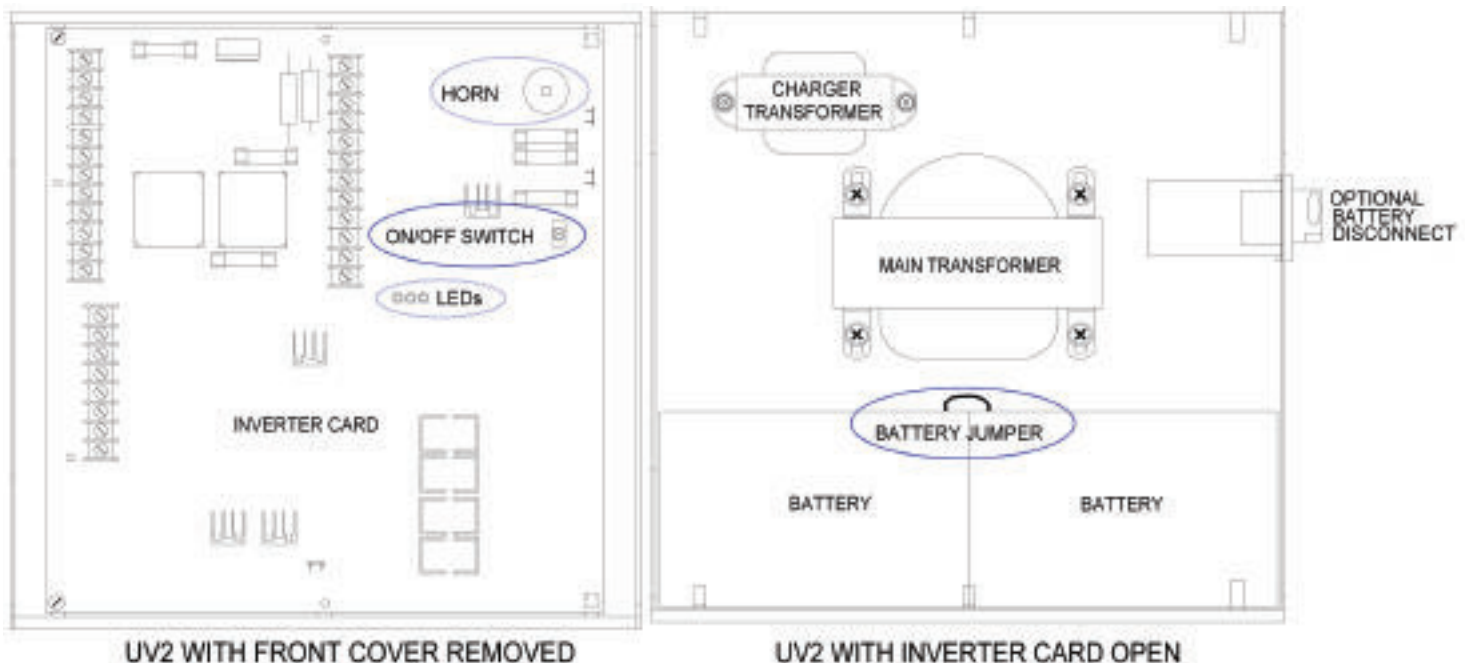

Figure 1: Components
The UV2 consists of several components, including two batteries, two transformers, an inverter board with an on/off switch and an optional battery-disconnect switch (Figure 1). The batteries are 12-VDC, 12-AHr sealed lead acid cells that are connected in series to provide a 24-VDC nominal output. The main transformer, in conjunction with the inverter board, uses 24 VDC from the batteries to create the appropriate AC voltage supply (120, 208, 240 or 480) for the elevator controller and door operator. The inverter board is hinged on its left side and opens easily to provide access to the internal cabinet for battery replacement and wiring.
The UV2 is equipped with four status indicators (Figure 1) that are located on the inverter board. These are:
installed, this switch should be locked out and tagged out during maintenance operations on the elevator. If the unit does not have a battery-disconnect switch, disable battery functions by removing the jumper between the two batteries. (Figure 1). After the batteries have been disconnected, be careful not to short them together inadvertently.
3. If the optional battery-disconnect switch is installed, it should be turned off, locked out and tagged out. If the unit does not have a battery-disconnect switch, disable battery functions by removing the jumper between the two batteries (Figure 1).
2. If the unit does not have a battery-disconnect switch, disable battery functions by removing the jumper between the two batteries (Figure 1).
7. If there is an optional battery-disconnect switch, turn it on. If the unit does not have a battery-disconnect switch, install the jumper between the two batteries (Figure 1).
3. If there is an optional battery-disconnect switch, turn it on. If the unit does not have a battery-disconnect switch, install the jumper between the two batteries (Figure 1).